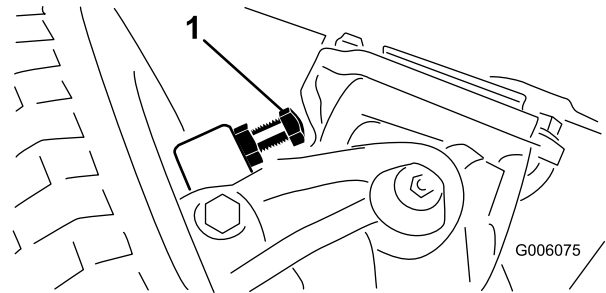

Figure 72
- Thread the bolts in or out until you attain a clearance of 0.23 cm (0.090 inch) (Figure 72).